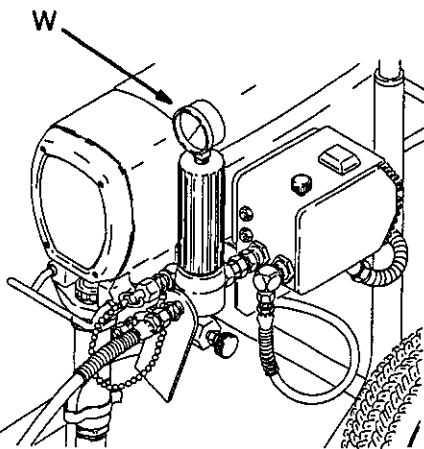

Fig. 25
2. Refer to the above list of tools and equipment needed. Remove the plug (A) from the top of the fluid filter and install the fluid-filled pressure gauge. Refer to Fig. 25. Connect the gun to the **new** test hose and connect the hose to the sprayer outlet.